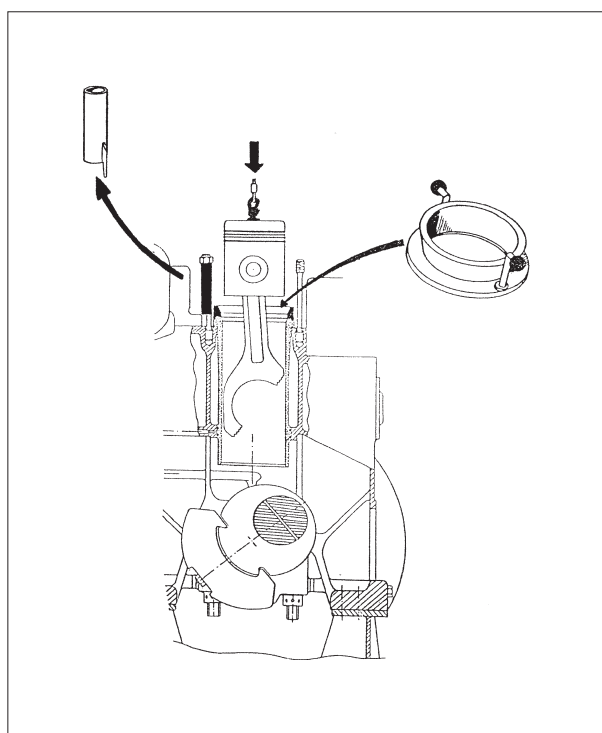

Fig. 1.
3) Remove the backstop for cylinder liner and place the piston guide ring on top of the cylinder liner, see fig. 1.